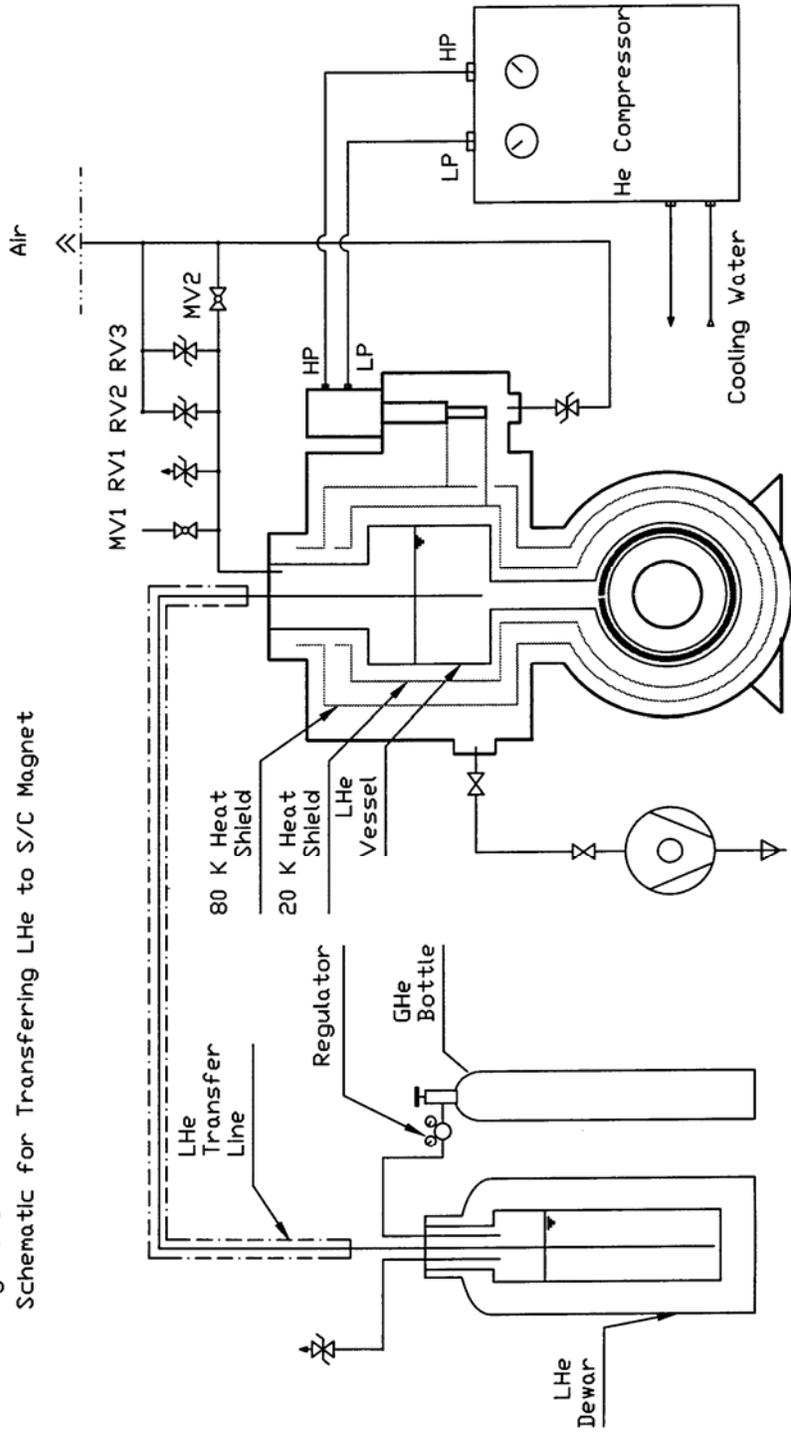

Figure 7
- 8.9 Figure 7. Schematic for charging magnet.